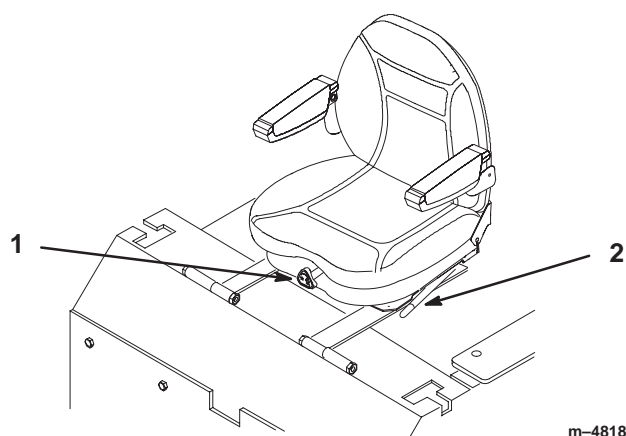

Figure 13
1. To adjust, move the lever sideways to unlock seat (Fig. 13).
1. To adjust, turn the knob in front either direction to provide the best comfort (Fig. 13).